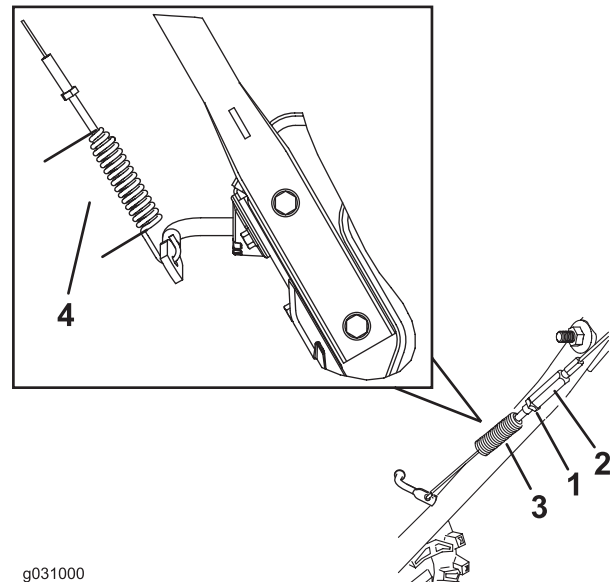

Figure 39
3. Loosen or tighten the turnbuckle to adjust the spring length to 7 cm (2.75 inches) as shown in Figure 39.
4. Tighten the jam nut (Figure 39), ensuring there is slight tension on the cable.